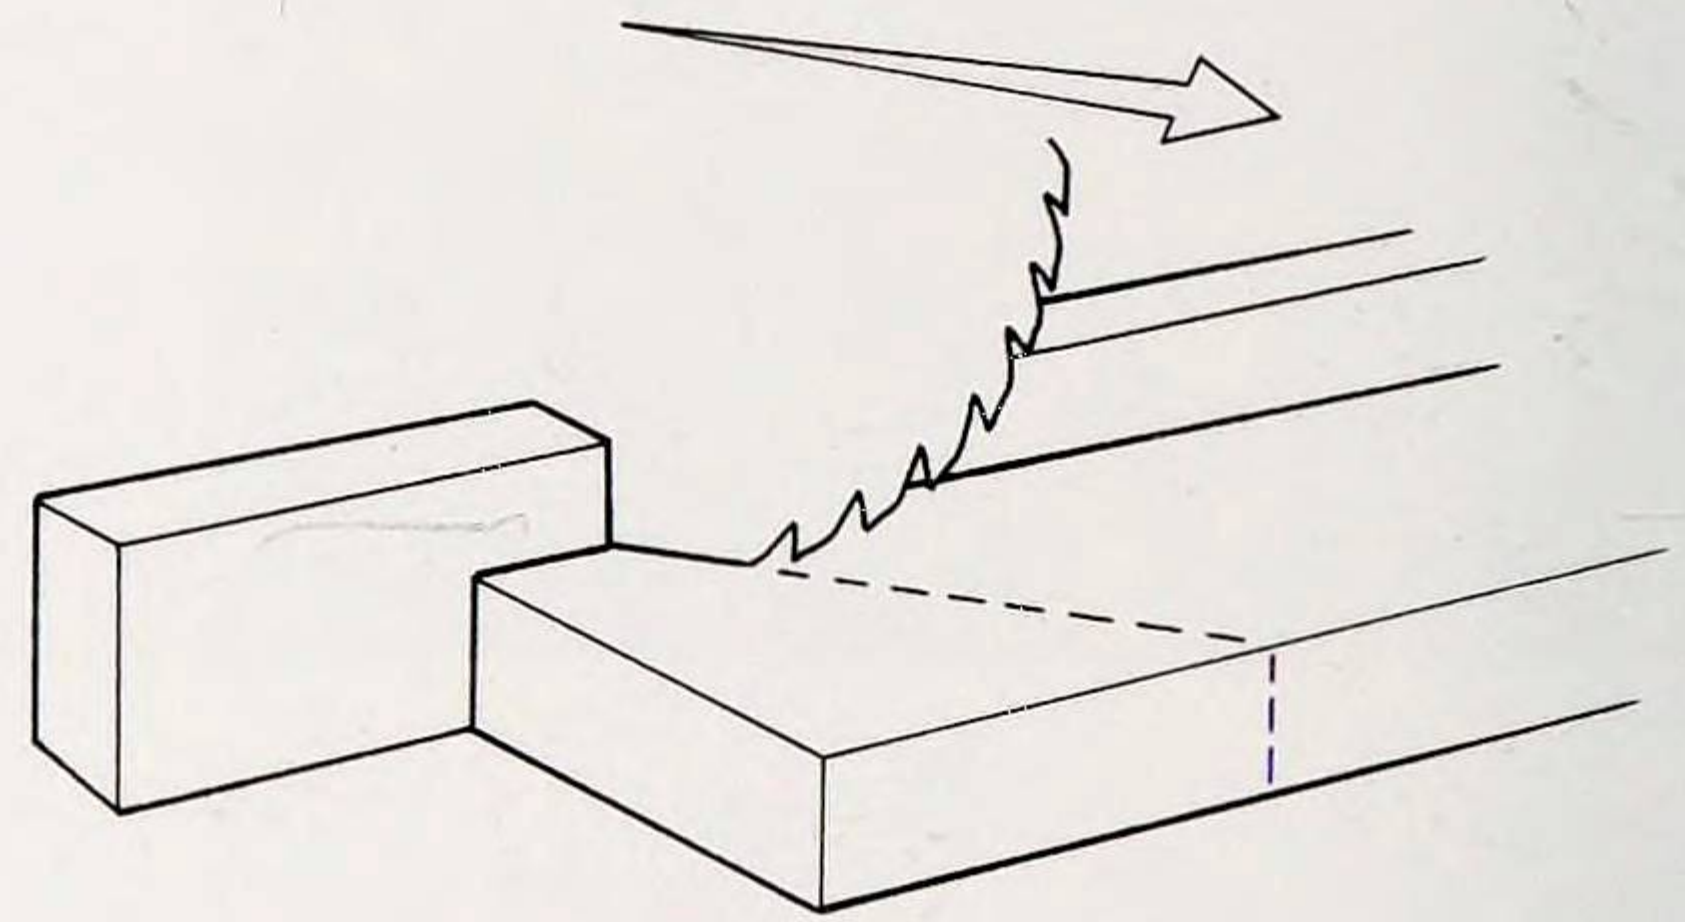

Fig. 2a Cutting a mitre with a radial arm saw
3. Each of the pieces should be slightly over length to allow you to cut the mitres. These can be cut with a radial arm saw (Fig. 2a) or, very carefully, with a panel or tenon saw (Fig. 2b). You may need to plane the faces after cutting to achieve an exact fit.